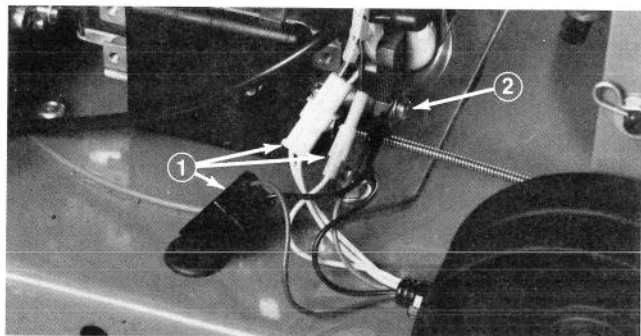

Figure 4
1. Secure (3) in-line male connectors to appropriate female connectors (Fig. 4).